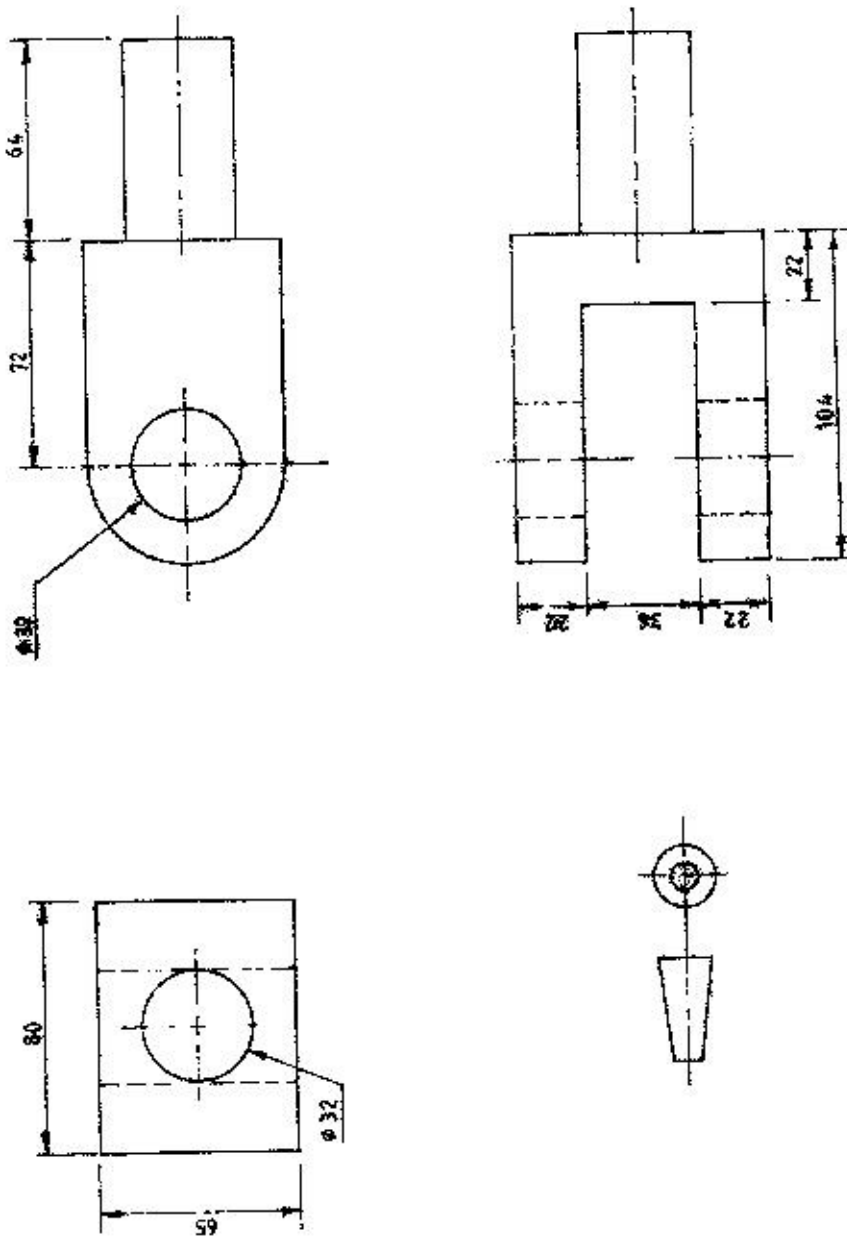

Fig. 3
- (a) Draw an orthographic view of the swivel joint connector shown in Figure 3. (12 marks)
- (b) Draw an isometric projection of Figure 3 and include **four** major dimensions. (8 marks)